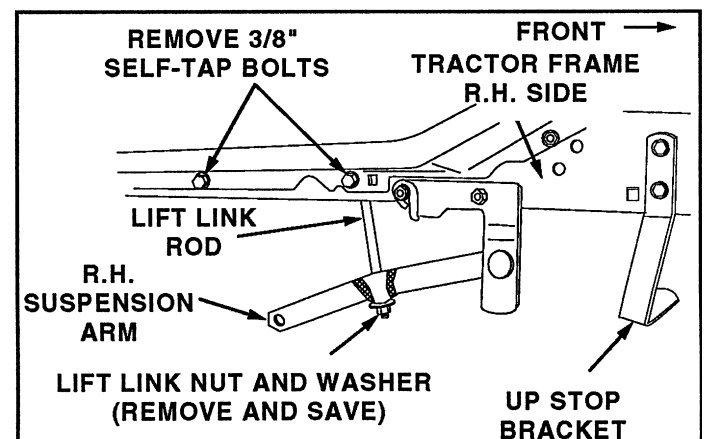

FIGURE 9
- Remove and save both suspension arms, along with the nuts and washers which fasten them to the lift link rods. Also remove the 3/8" self-tapping bolts from each side of the tractor frame as shown in figure 9. **On some tractors the lift link nuts will be reused to fasten the dozer blade lift assembly to the lift link rods.**